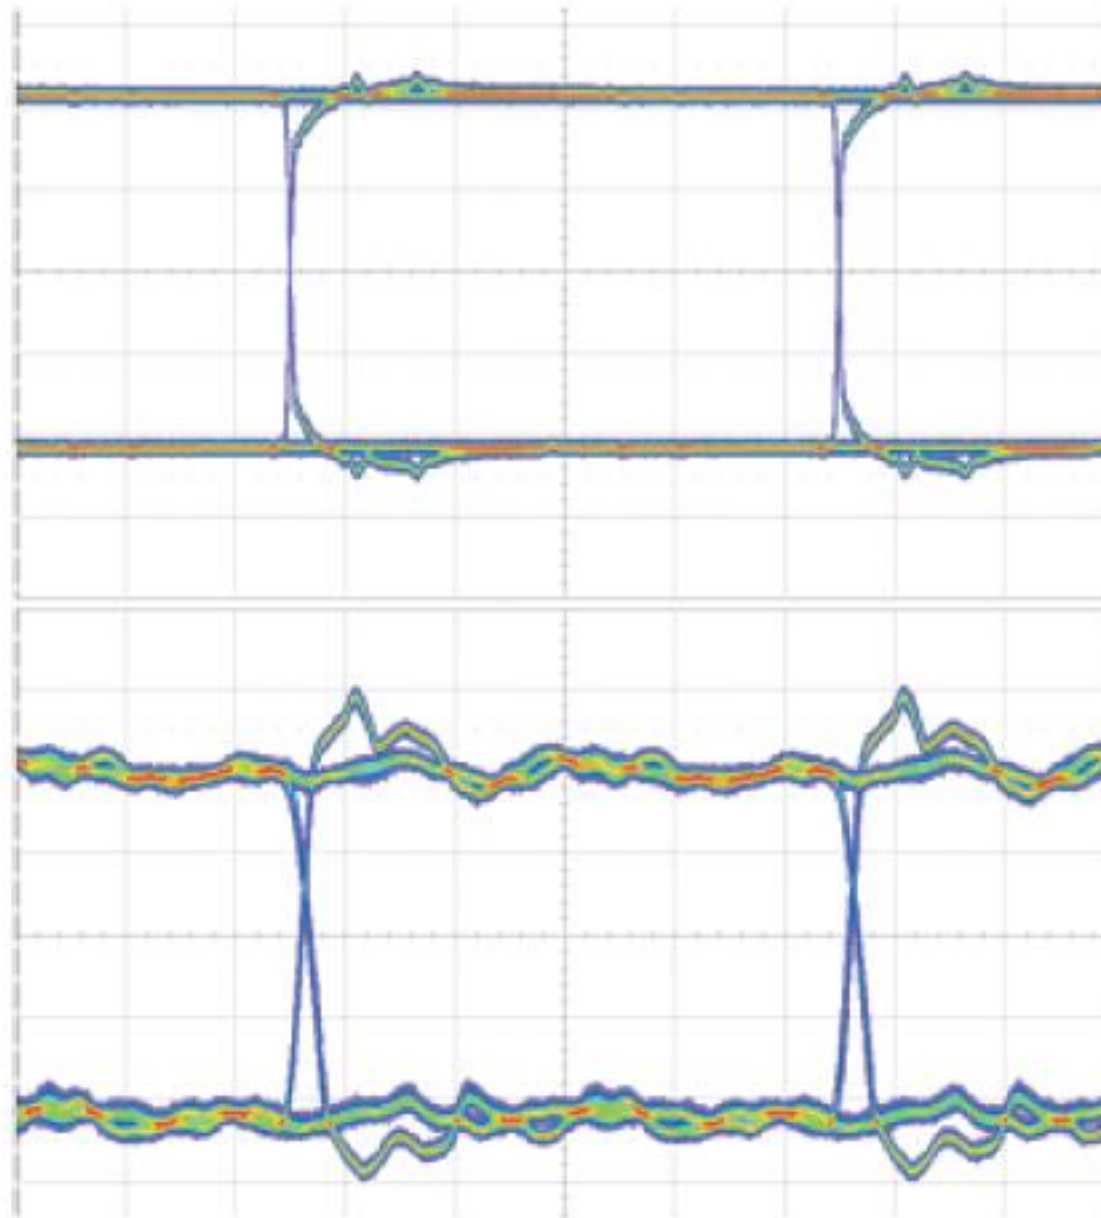

Figure 3. Eye Diagram Comparison of the NI 6535 (top) with the NI 6534 (bottom) Using Recommended Signal Termination
- In comparison to legacy digital I/O boards, NI 6535/36/37 devices have improved signal quality. In Figure 3, the top eye diagram is from an NI PXIe-6535 generating at 10 MHz. The bottom diagram shows an NI PXI-6534 generating a 10 MHz signal using signal termination recommended by NI.